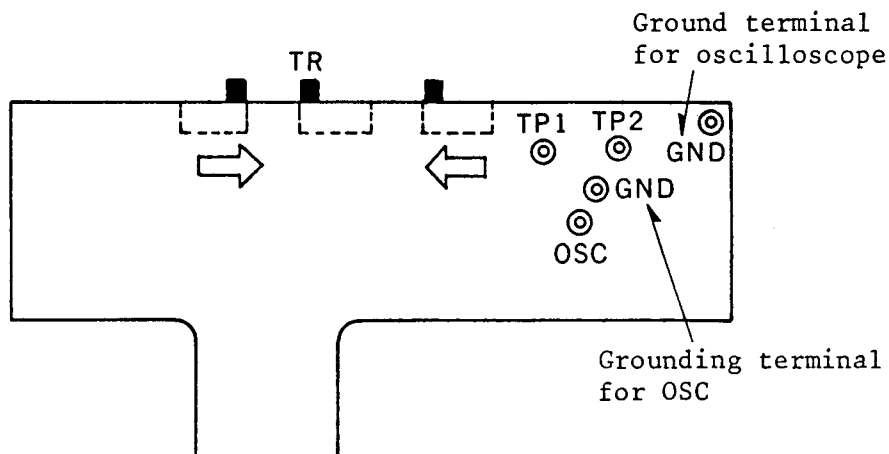

Fig. 2-9
- ① Set the switches of the PCB connection cord as shown in Fig. 2-9.